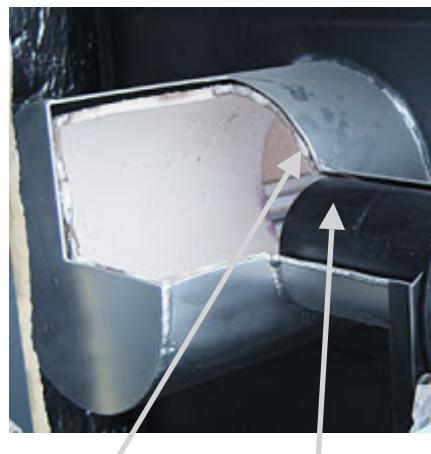

FIG. 9
1. Make sure hole in side of pyrolite chamber lines up with hole in the end of the blast tube. (See Fig. 9)